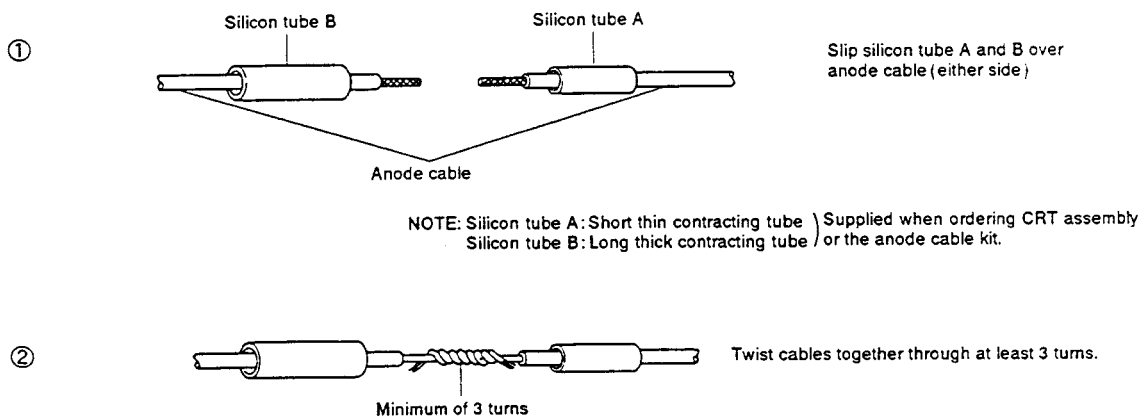

Fig. 10-4-1 Anode cable joining procedure (1)
- The silicon adhesive is applied to guard the cable core leads from external air. Apply binder liberally. After completing the joint (at step ⑩ in Fig. 10-4-1 thru 3), check that there is no hole in the silicon binder and the tube interior cannot be seen.